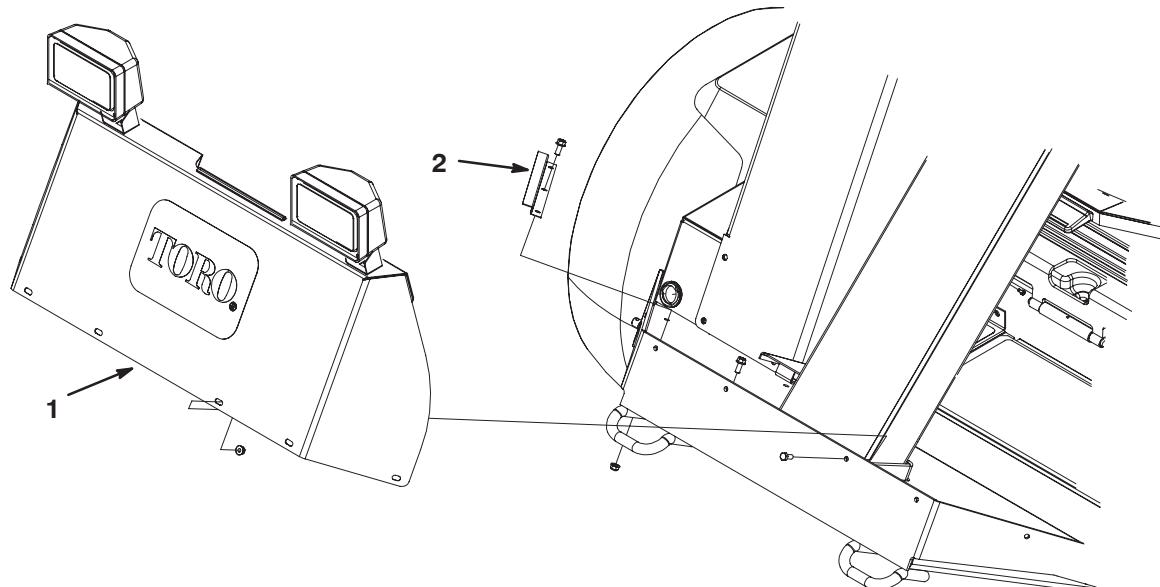

Figure 15
11. Mount the front shroud assembly to the front frame with (6) 5/16 x 3/4" lg. flange head screws and locknuts (Fig. 15). Position the front shroud behind the raised lip on the front frame.
13. Secure the wiring harness to the operator's platform with the wire cover and (3) flange head capscrews and nuts (Fig. 15).